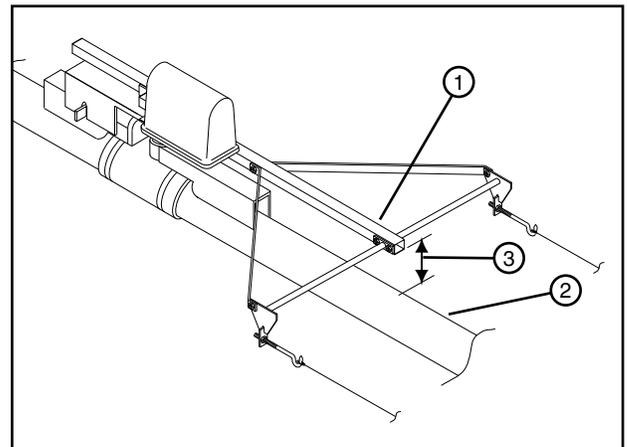

Figure 101-2 1. Alignment Tube
5. Measure the distance from the end of the alignment tube down to the pipe. This is the pre-weight measurement. See Figure 101-2.